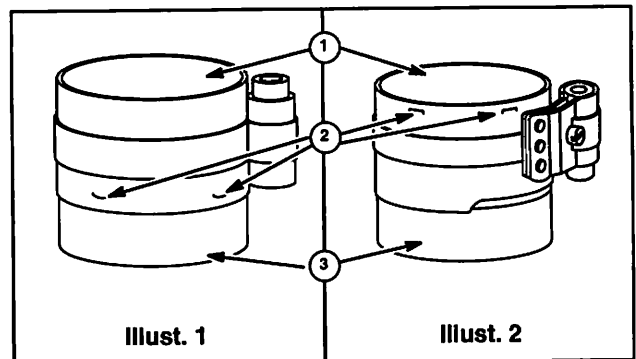

Fig. 11
NOTE: On aluminum bore engines, use ring compressor with the projections (2) at the top (1), as shown, Fig. 11, Illust. 2.
On cast iron sleeve and cast iron cylinder engines, use ring compressor with the projections (2) at the bottom (3), as shown, Fig. 11, Illust. 1.